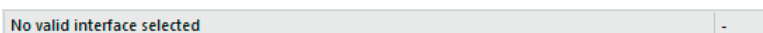

Fig. 6-19: Status bar: "No valid interface selected"
- ☞ If no interface is displayed in the status bar (Fig. 6-19), continue with chapter 6.3.3.3 "Selecting a communication interface".
The XCP-Gateway was designed as a bus interface, which is why it is listed in the **Interface** dialog. If no XCP-Gateway is displayed in the status bar after the program has started, the message **No valid interface selected** will instead be shown (Fig. 6-19). This means that a suitable communication interface still has to be selected.